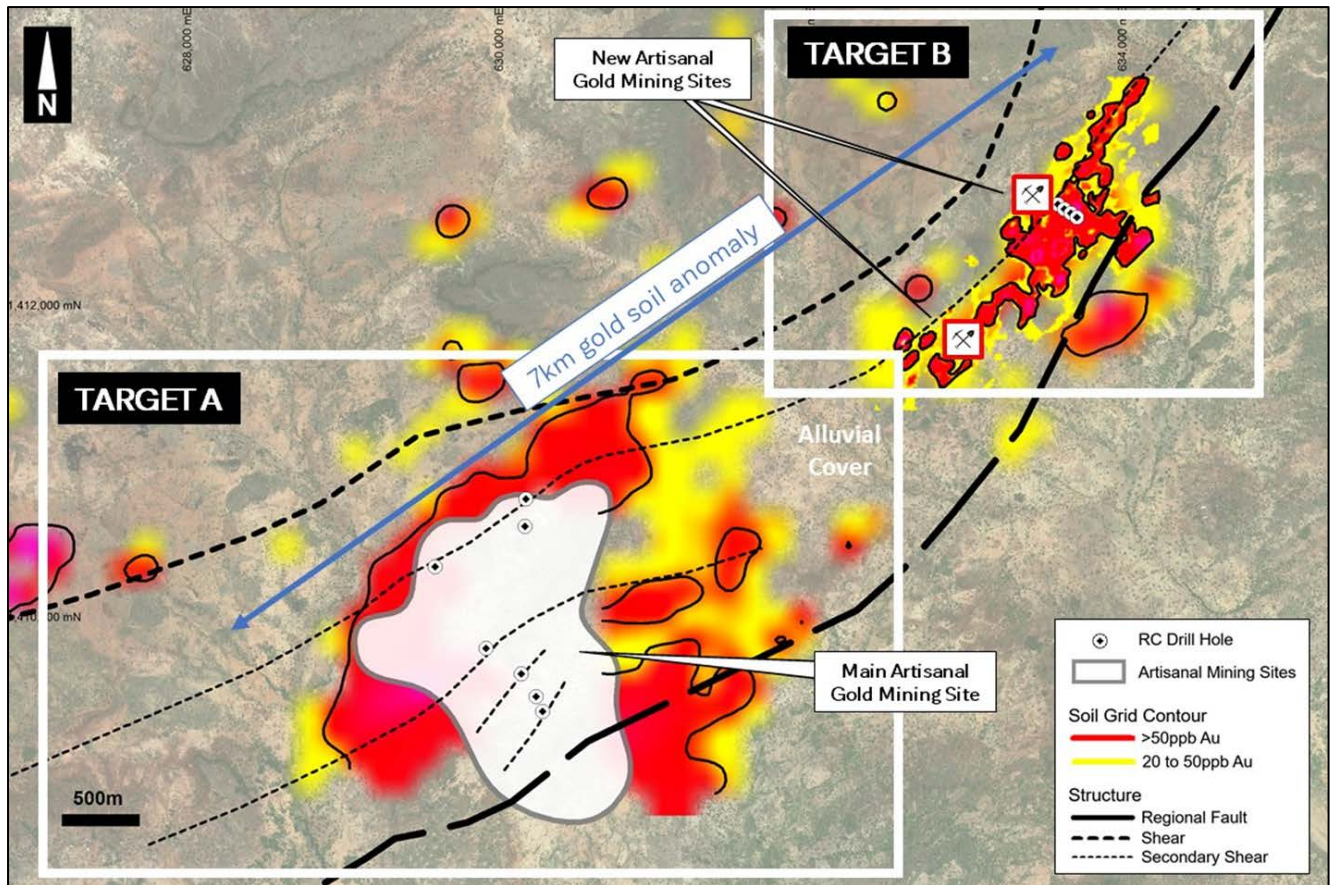

Figure 2: Niou targets with drill hole locations on gold soil geochemical anomaly
The 1,210m reverse circulation (RC) drilling program was designed to test two targets within a broad (1 to 2km wide) zone of shearing associated with a major regional fault and coincident with a gold soil anomaly along a 7km long strike. Drill hole locations within Targets A and B are shown on Figure 2.
Target A contains a 2km-long by 1km-wide main gold artisanal mining site (shown in white in Figure 2), where artisanal miners are mining to depths up to 50m (Figure 3) suggesting high-grade mineralisation is present in the area.